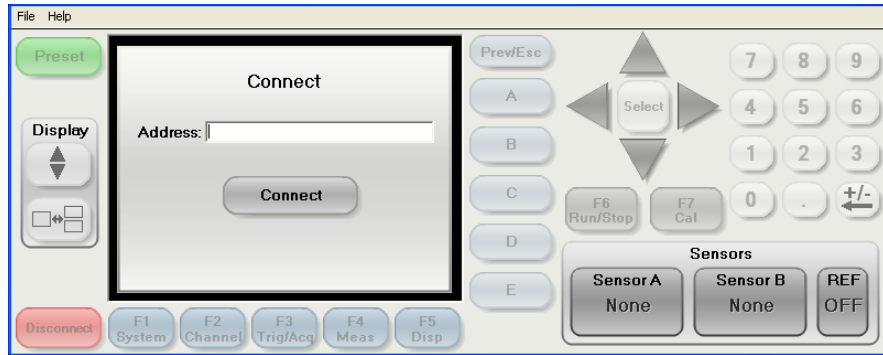

Figure 1-24 P-Series soft front panel
- 8 The P-Series soft front panel appears (See **Figure 1-24**)